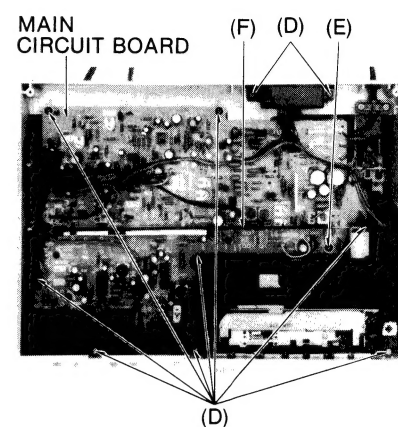

Fig. 3
<p>A Head position adjustment</p> <p>Condition:</p> <ul style="list-style-type: none"> <li>• Playback and pause mode</li> </ul>	<p>(The head adjusting plate is provided to adjust the tape touch of the head in cue or review mode.)</p> <ol style="list-style-type: none"> <li>1. Press the playback button and pause button.</li> <li>2. Measure the space between the pressure roller and the capstan.</li> </ol> <div style="border: 1px solid black; padding: 5px; width: fit-content; margin: 10px auto;"> Standard value: <math>0.5 \pm 0.3 \text{ mm}</math> </div> <ol style="list-style-type: none"> <li>3. If the measured value is not within the standard value, untighten screw (A), and slide the head adjusting plate in the direction of arrow (B) for adjustment.</li> </ol>  <p style="text-align: right;">Fig. 3</p>